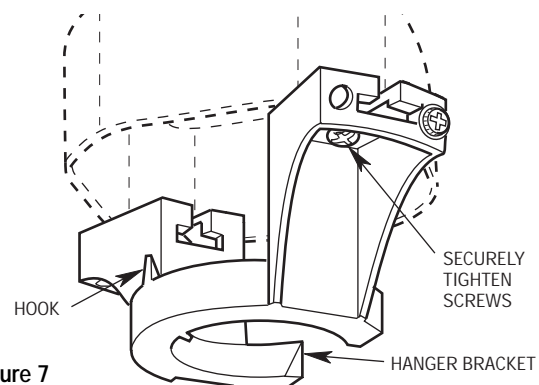

Figure 7
- 2. Slide the hanger bracket onto the outlet box screws. Center the bracket over the outlet box and then securely tighten the screws (Figure 7).